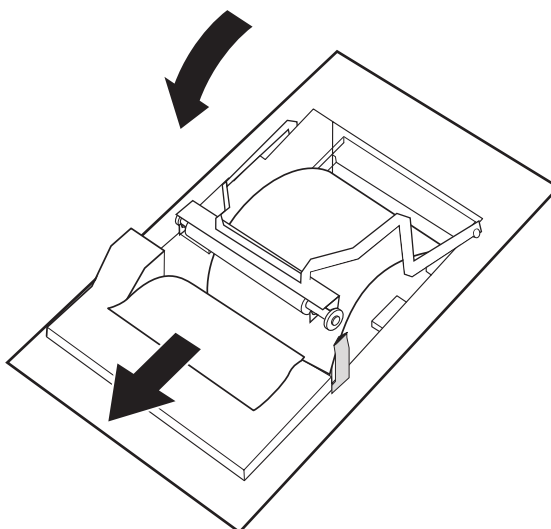

Figure 3.12 Lower the Paper Guide
- 4 Pull the paper out a bit, as seen below in Figure 3.12, “Lower the Paper Guide.”